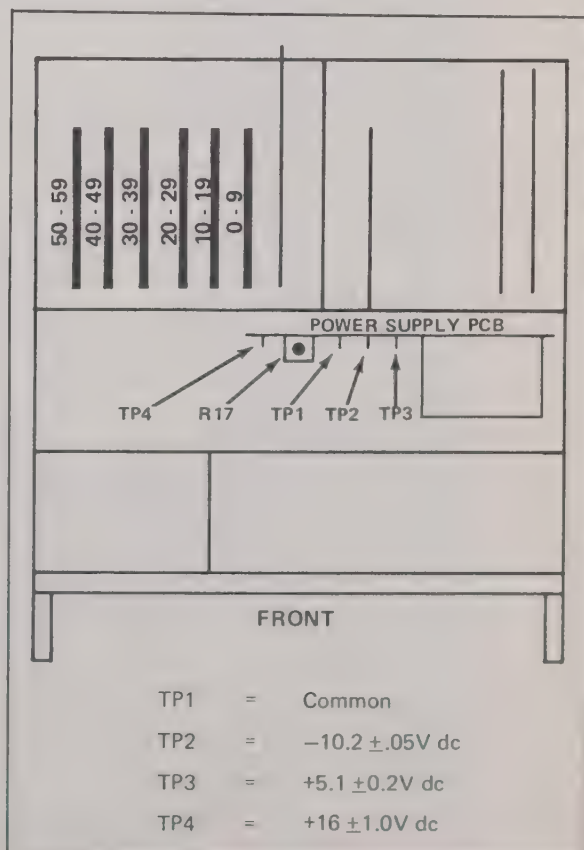

Figure 4-3. Power Supply Test Point and Adjustment Locations
- a. Connect the DVM to TP1 (common) and TP2 (-10.2V dc) on the Power Supply PCB. See Figure 4-3.